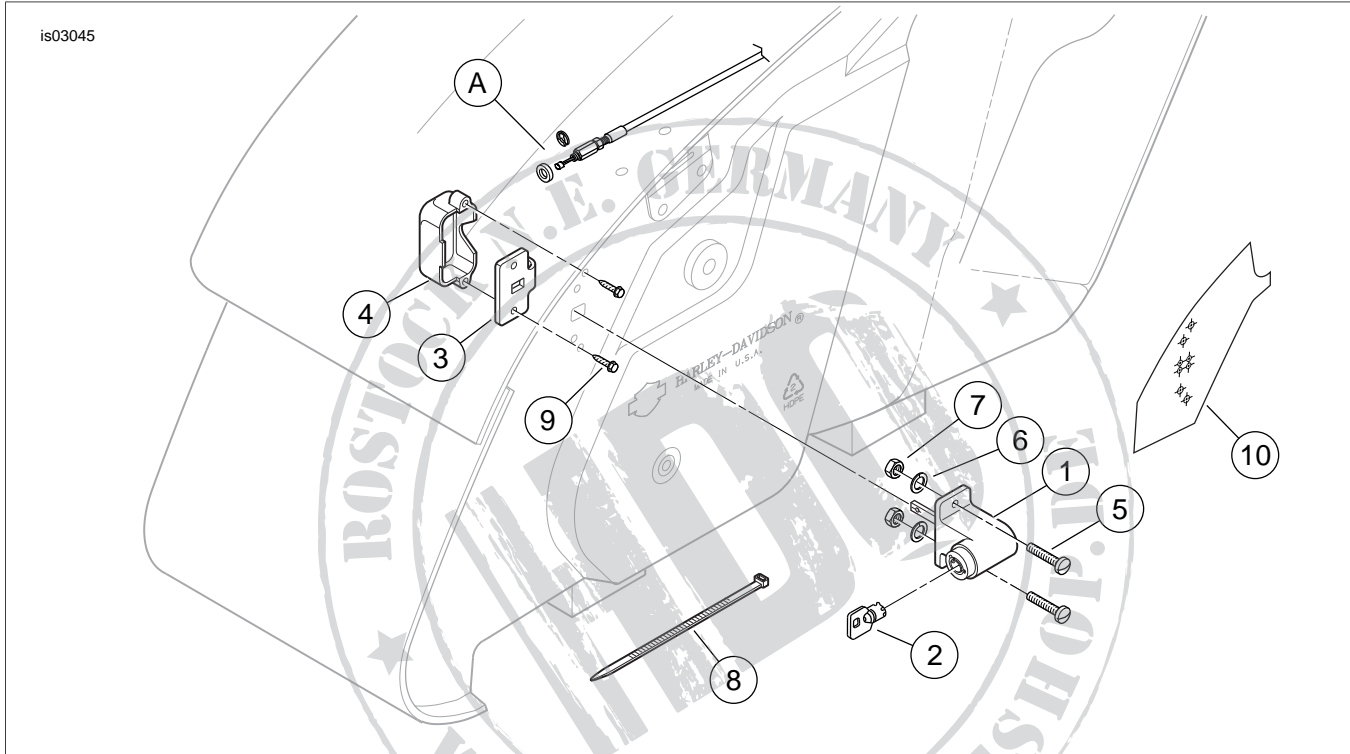

Figure 2. Service Parts, FLHRS Saddlebag Lock Set
See Figure 2 and Table 1.
7. See the Figure 2. Obtain one lockset (1) and two screws (5) from the kit. Position the lockset to the saddlebag as shown, with the actuator rod protruding through the rectangular opening cut in step 6.
8. Position a backing plate (3) over the screw threads inside the saddlebag. Fasten the lockset and backing plate to the saddlebag with two lockwashers (6) and hex nuts (7) from the kit.